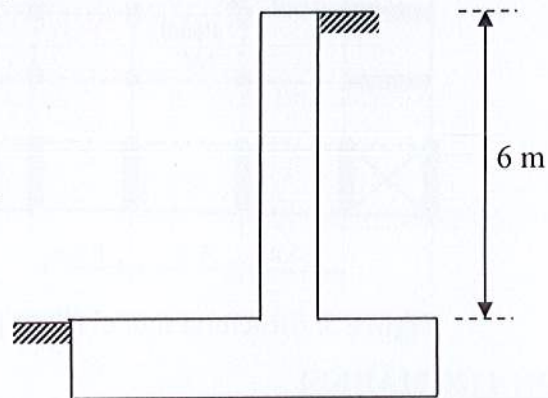

Figure 2. Retaining wall
- b. A cantilever retaining wall of a riverbank is shown in **Figure 2**. The density of soil beside the wall is 1800 kg/m^3 , active soil pressure coefficient is 0.33, soil is saturated with water (void ratio of the soil is 70%). Apply the concept to design the wall with **optimal thickness** as per requirements of BNBC 2020. Assume required data for design, concrete strength (f_c') could be used as 15 N/mm^2 . [10 Marks]